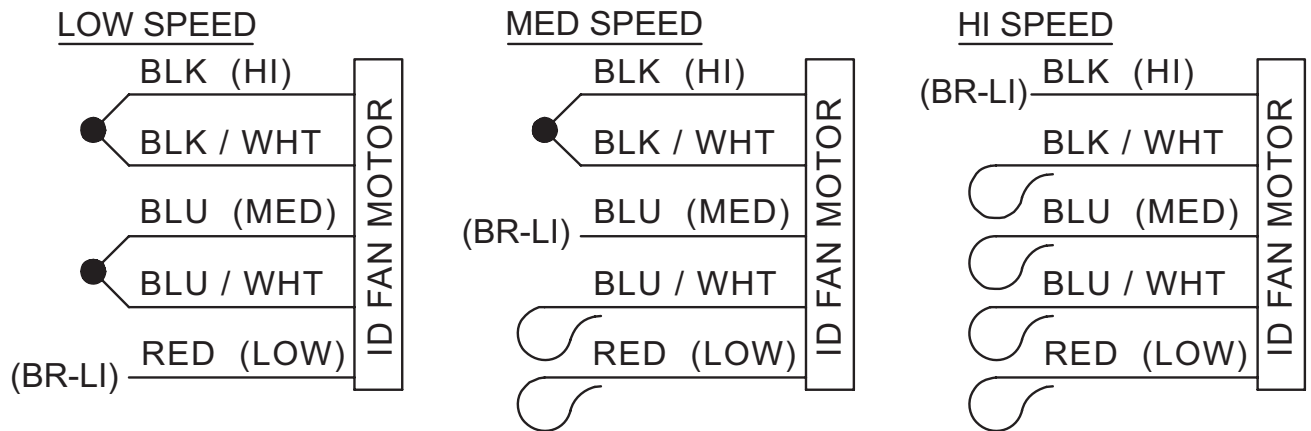

FIGURE 16: WIRING DIAGRAM DETAIL A (460-3-60 POWER SUPPLY)¹
8. Unit factory wired for low or medium speed indoor blower operation. To change motor speed, connect speed tap wires from indoor blower motor, per Detail A (Figure 16). Tape unused speed tap wires to prevent shorting and secure.